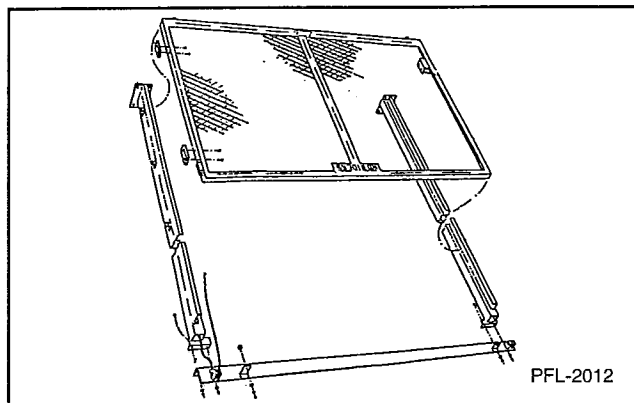

Figure 6
2. Lay out the framework in the proper arrangement. See Figure 6.